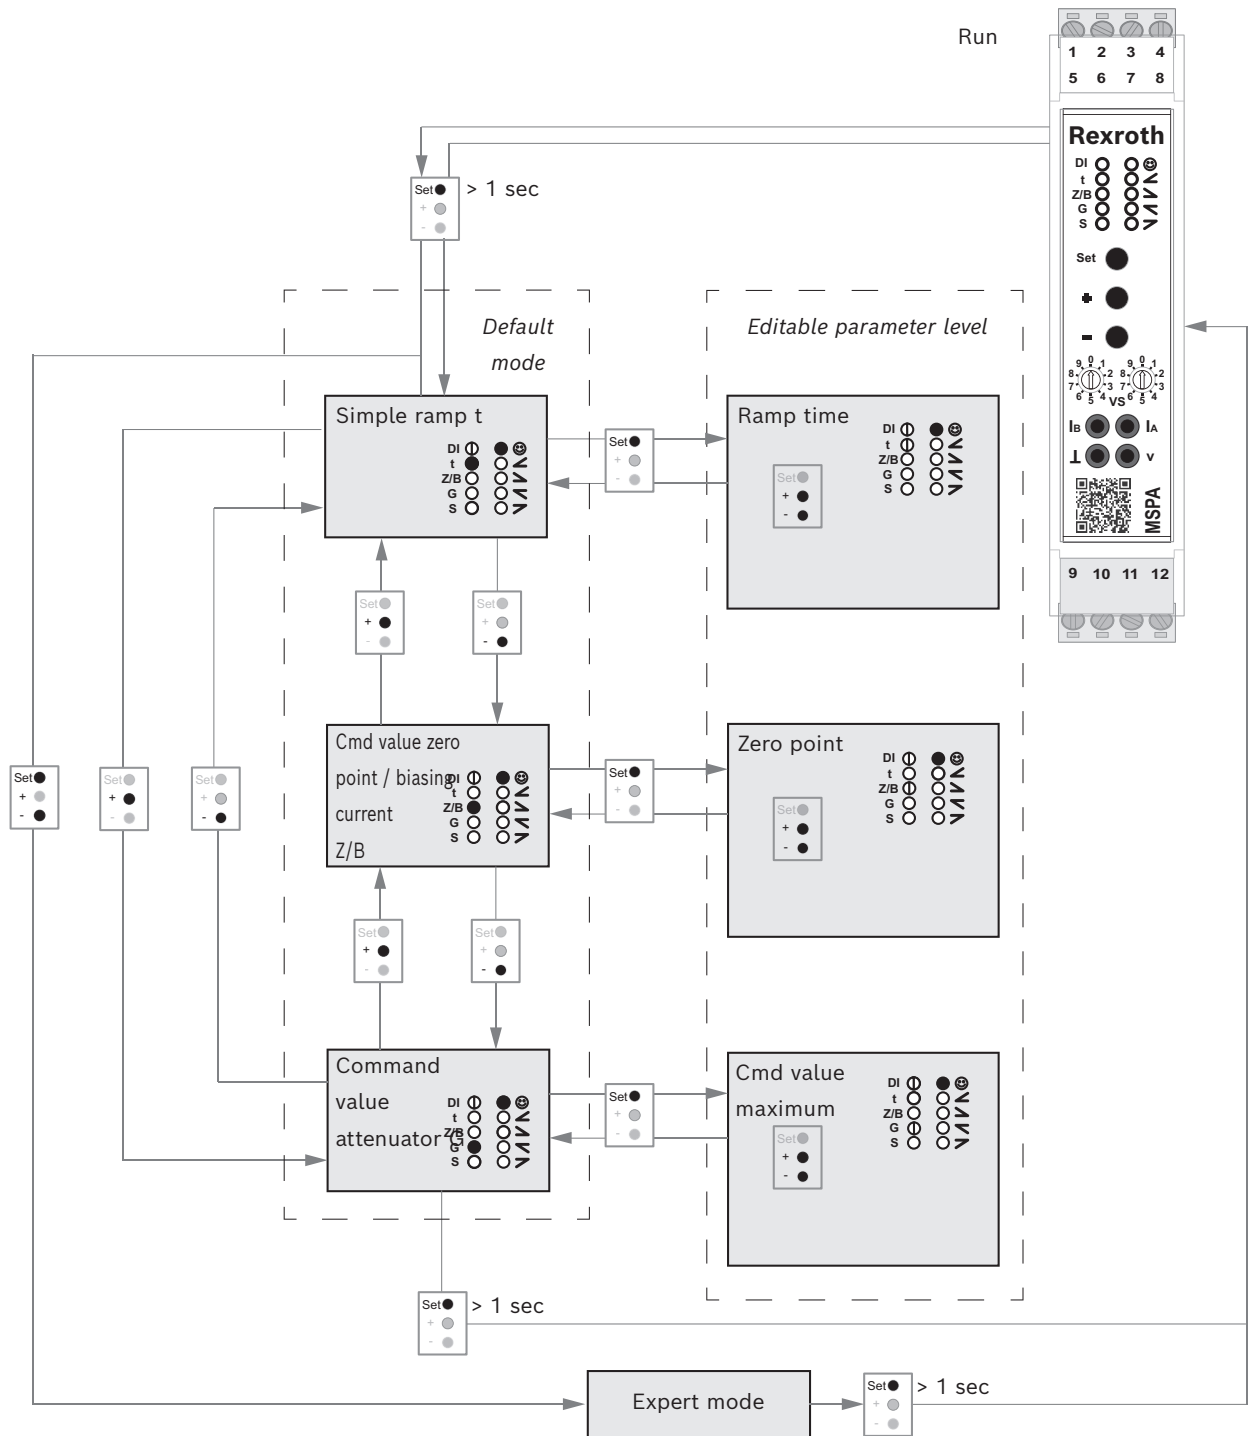

Fig. 5: Menu structure
**Select parameter** ▶ Press **[Set]** > 1 sec. to switch to the first settable parameter (simple ramp, see Fig. 5).